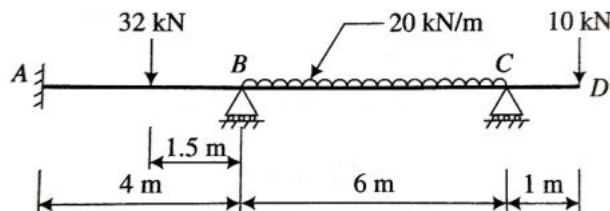

Figure 6.
10. Analyze the continuous beam shown in figure 6, by using flexibility matrix method.